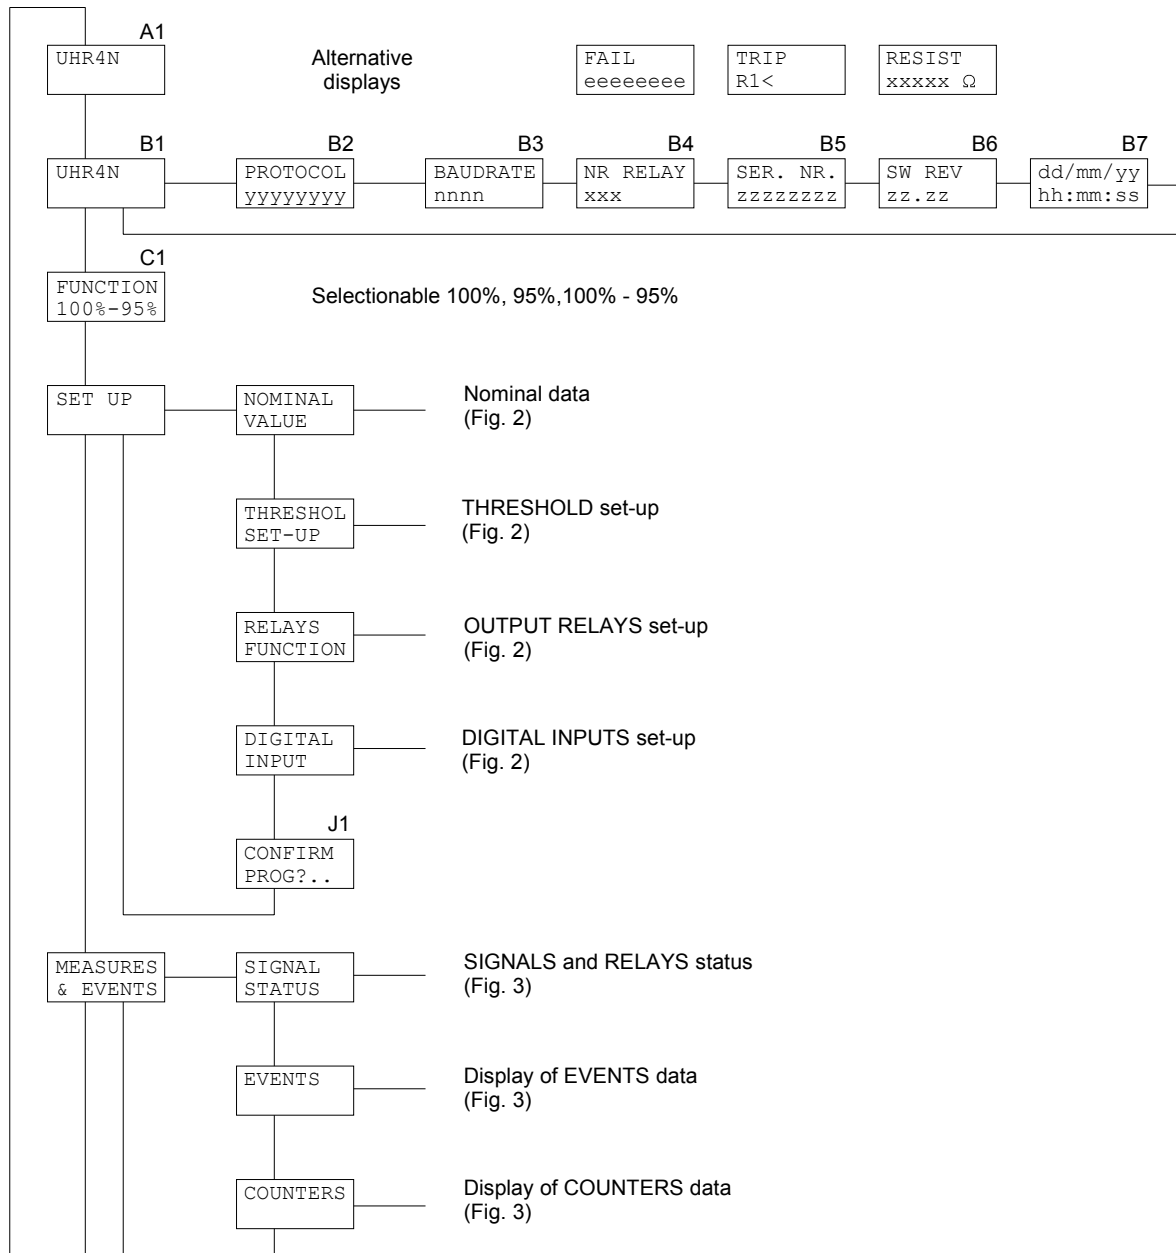

Figure 1
The programmable parameters are showed in Figures 1 to 3 at the following references:
- 5) **CONFIRM** the new protection relay set-up at the visualization CONFIRM PROG? (Figure 1, ref. J1) within 5 minutes depressing the push-buttons [ENTER] and  up to visualize **YES** and [ENTER] again to confirm.
- display on STANDARD MODE (Figure 1, ref. A1 - par. 5.1)
### 5.3 Address and time (figure 1)
**5.4 Function selection (figure1)****C1 - PROTECTION FUNCTION SELECTION (programmable)**